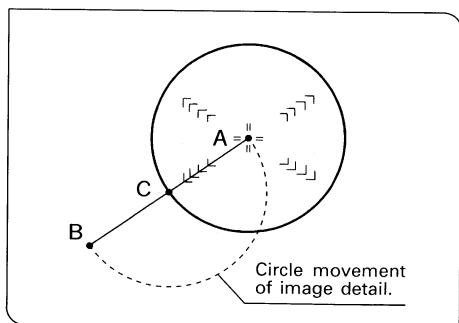

Fig. 33
3. When the stage is rotated, the detail moves in a circle from A to B. Insert the provided centering knobs (3) into the stage centering screws (2) and coincide the detail with the imaginary center C of the A-B circle. (Fig. 33, 34)